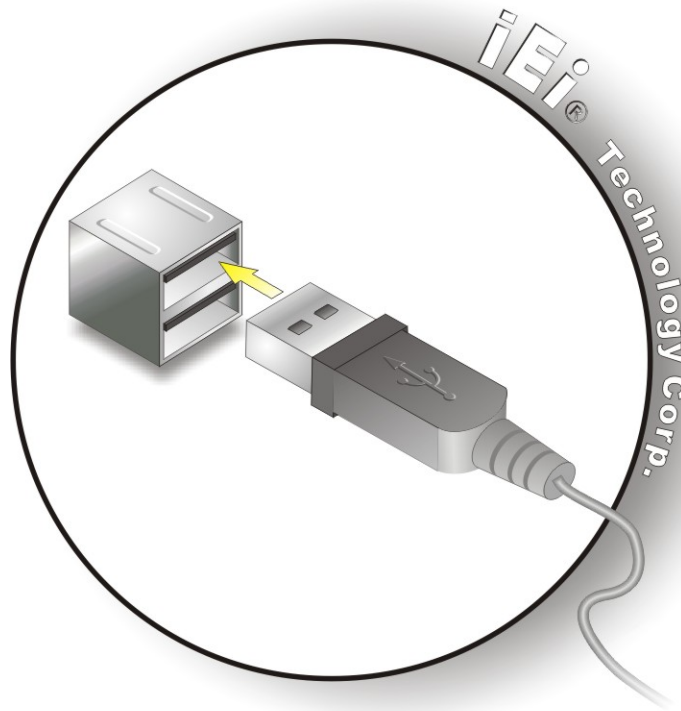

Figure 4-27: USB Device Connection
Step 2: Align the connectors. Align the USB device connector with one of the connectors on the bottom panel. See **Figure 4-27**.